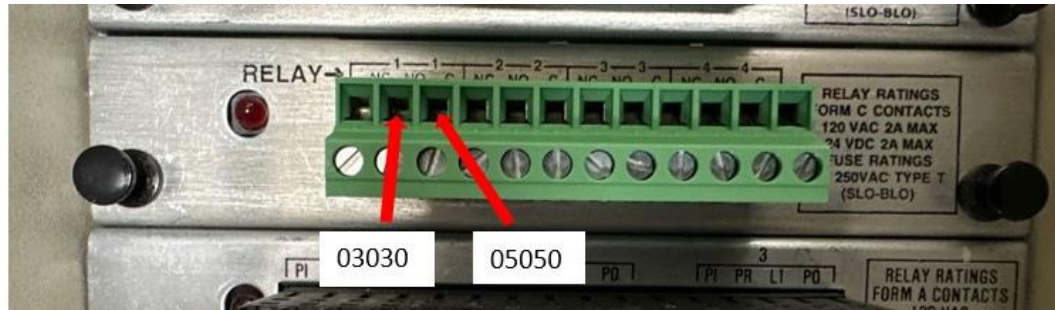

Figure 3-2: Veeder-Root TLS-350 Output Relay
2. Select an open port and connect wires to NO and C connectors on the relay board. Program the TLS-350 output relay to **Normally Closed**, to **open the contacts on an overfill condition**. Connect the TLS-350 Normally Open to 03030 on the GM Panel and terminal Common to 05050. **See Figure 3-2.**